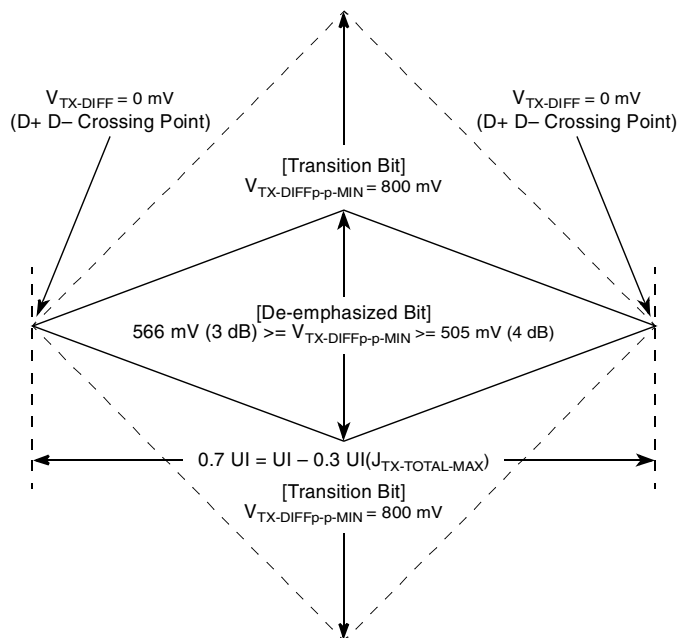
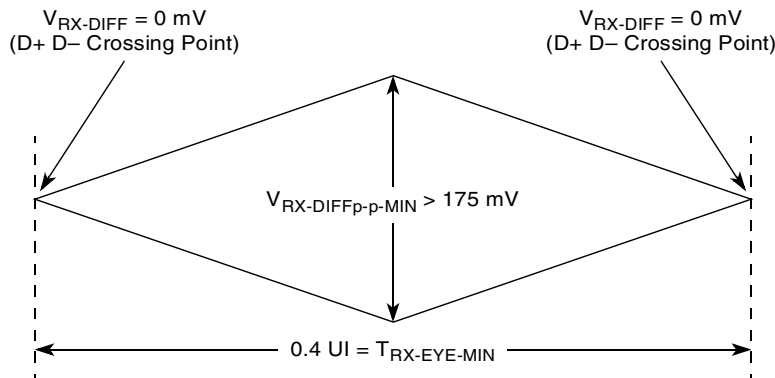
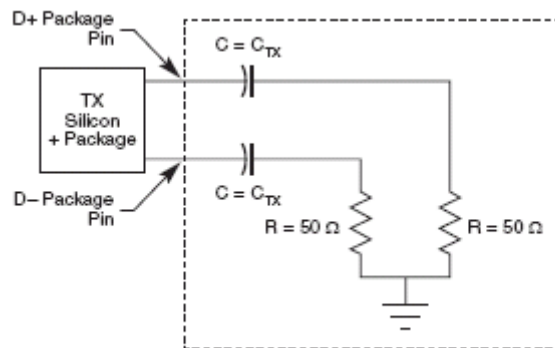

Figure 27. Minimum Transmitter Timing and Voltage Output Compliance Specifications
Figure 28. Minimum Receiver Eye Timing and Voltage Compliance Specification
Figure 29. Compliance Test/Measurement Load
2. Specified at the measurement point into a timing and voltage compliance test load as shown in Figure 29 and measured over any 250 consecutive TX UIs. (Also refer to the transmitter compliance eye diagram shown in Figure 27.)
4. The transmitter input impedance results in a differential return loss greater than or equal to 12 dB and a common mode return loss greater than or equal to 6 dB over a frequency range of 50 MHz to 1.25 GHz. This input impedance requirement applies to all valid input levels. The reference impedance for return loss measurements is 50 Ω to ground for both the D+ and D– line (that is, as measured by a vector network analyzer with 50- Ω probes, see Figure 29). Note that the series capacitors, C_{TX} , is optional for the return loss measurement.
5. Measured between 20% and 80% at transmitter package pins into a test load as shown in Figure 29 for both $V_{\text{TX-D+}}$ and $V_{\text{TX-D-}}$.
The TX eye diagram in Figure 27 is specified using the passive compliance/test measurement load (Figure 29) in place of any real PCI Express interconnect + RX component. There are two eye diagrams that must be met for the transmitter. Both diagrams must be aligned in time using the jitter median to locate the center of the eye diagram. The different eye diagrams differ in voltage depending on whether it is a transition bit or a de-emphasized bit. The exact reduced voltage level of the de-emphasized bit is always relative to the transition bit.
- Specified at the measurement point and measured over any 250 consecutive UIs. The test load in Figure 29 should be used as the RX device when taking measurements (also refer to the receiver compliance eye diagram shown in Figure 28). If the clocks to the RX and TX are not derived from the same reference clock, the TX UI recovered from 3500 consecutive UI must be used as a reference for the eye diagram.
- The receiver input impedance results in a differential return loss greater than or equal to 15 dB with the D+ line biased to 300 mV and the D– line biased to –300 mV and a common mode return loss greater than or equal to 6 dB (no bias required) over a frequency range of 50 MHz to 1.25 GHz. This input impedance requirement applies to all valid input levels. The reference impedance for return loss measurements for is 50 Ω to ground for both the D+ and D– line (that is, as measured by a vector network analyzer with 50- Ω probes, see Figure 29). Note that the series capacitors, C_{TX} , is optional for the return loss measurement.
The RX eye diagram in Figure 28 is specified using the passive compliance/test measurement load (Figure 29) in place of any real PCI Express RX component. In general, the minimum receiver eye diagram measured with the compliance/test measurement load (Figure 29) is larger than the minimum receiver eye diagram measured over a range of systems at the input receiver of any real PCI Express component. The degraded eye diagram at the input receiver is due to traces internal to the package as well as silicon parasitic characteristics that cause the real PCI Express component to vary in impedance from the compliance/test measurement load. The input receiver eye diagram is implementation specific and is not specified. RX component designer should provide additional margin to adequately compensate for the degraded minimum receiver eye diagram (shown in Figure 28) expected at the input receiver based on an adequate combination of system simulations and the return loss measured looking into the RX package
The reference impedance for return loss measurements is 50 Ω to ground for both the D+ and D– line (that is, as measured by a Vector Network Analyzer with 50 Ω probes—see Figure 29). Note that the series capacitors, C_{PEACCTX}, are optional for the return loss measurement.
The AC timing and voltage parameters must be verified at the measurement point, as specified within 0.2 inches of the package pins, into a test/measurement load shown in Figure 29.